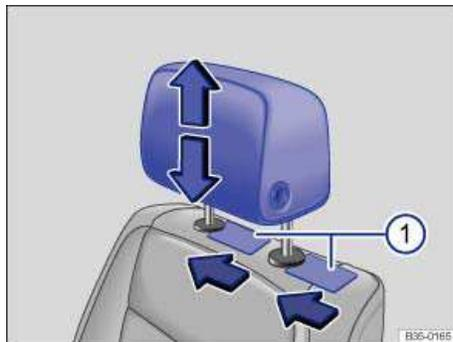

Fig. 50 Removing the front head restraints.
- On each side of the seat, slide a flat object, such as a plastic credit card, between the seat backrest and the cap of each head restraint guide rod ⇒ fig. 50 \(1\) to unlock the head restraint. Press lightly at the same time to release the rods.